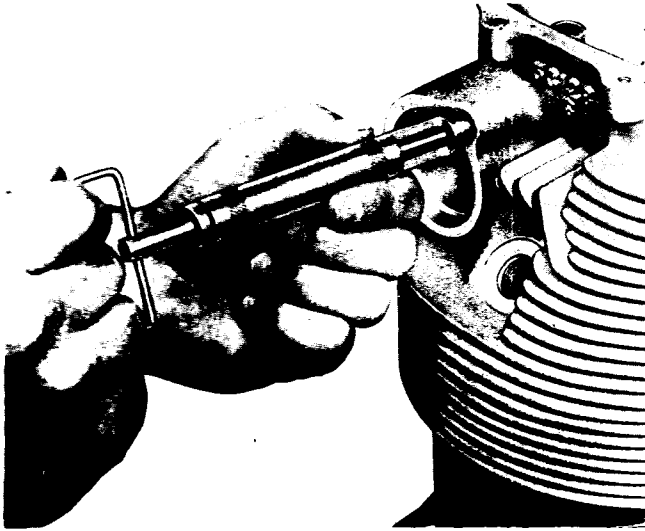

Figure 30. Installing Typical Heli-Coil Insert
**10-5.** To remove a damaged "Heli-Coil" insert use the proper size of extracting tool for the nominal thread size. Tap it into the insert so that the sharp edges get a good "bite"; then turn the tool to the left, and back out the "Heli-Coil" until it is free. To install a new insert in a properly tapped hole (after blowing out all liquid and chips), slide it over the slotted end of the driving mandrel of the proper size of installing tool and engage the driving tang (bent end) of the "Heli-Coil" in the mandrel slot; then wind the insert slowly into the tapped hole. (See figure 30.) The outer end of the insert should lie just within the first full thread of the hole. Break off the driving